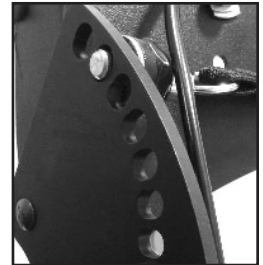

Fig. 49
6. Confirm that the recline lock pins are fully engaged on both sides. Fig. 49